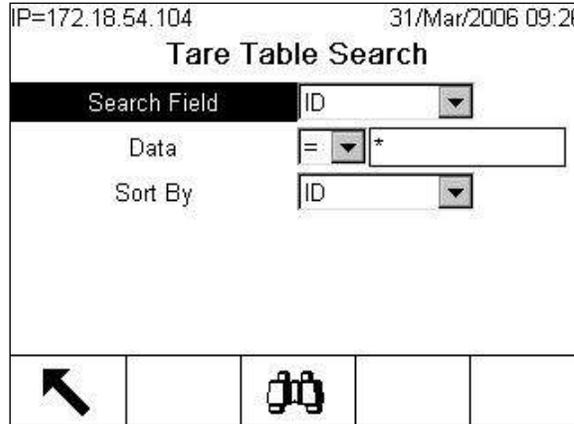

Figure C-18: Tare Table Search Screen
2. Press the VIEW TABLE softkey . The Search screen (Figure C-18) displays.